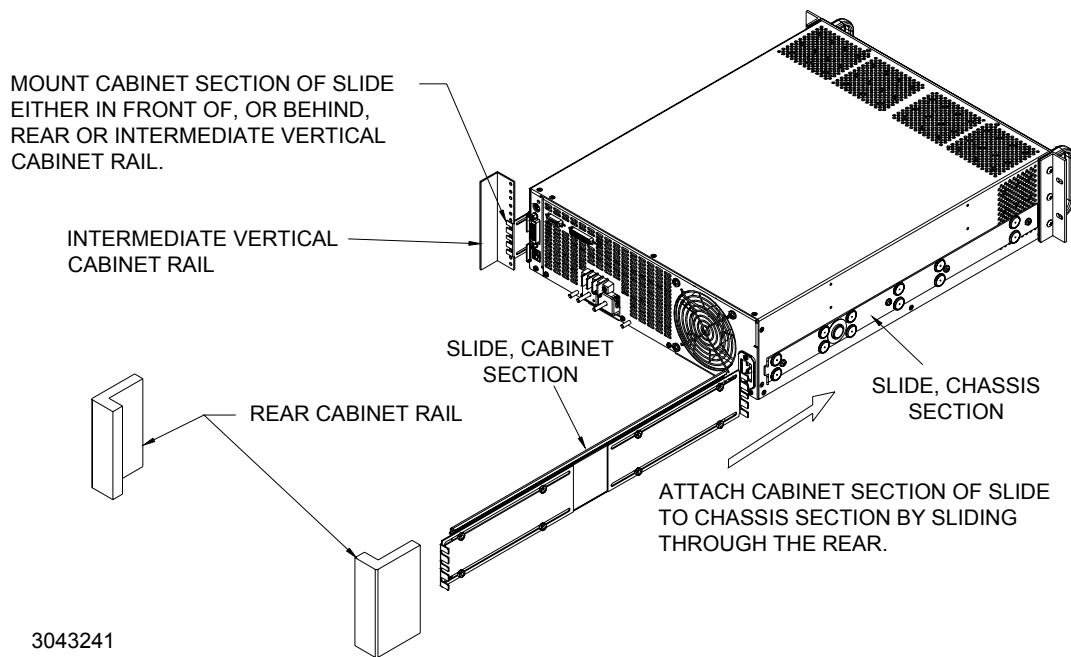

FIGURE 3. ATTACHING CABINET SECTION TO RAIL
- Attach mounting brackets (with cabinet section of slide attached) to the cabinet rail (attaching hardware not supplied) (see Figure 3).